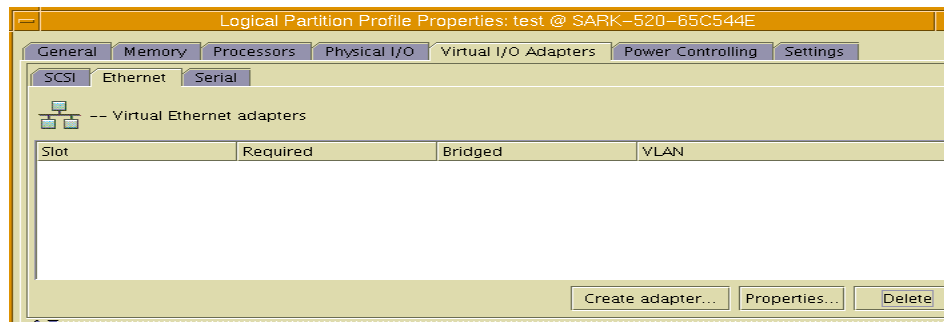

Figure 4-23 Create Virtual Ethernet on VIO server
4. Next, create the Virtual Ethernet on the VIO server. Click on the “Ethernet Tab” on the Top Left and then click on “Create Adapter” icon as shown in Figure 4-23.